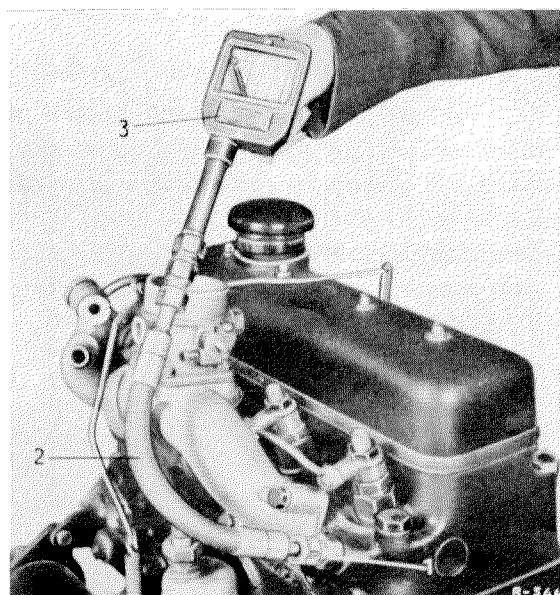

Figure 00-5/1
5. Screw adapter (1) to glow plug hole of the cylinder to be tested. Tighten adapter well to obtain proper sealing. **With Model OM 621**, also connect the angular piece part No. 000 589 00 90 with the union nut to the connection fitting (1), when measuring the 2nd and 3rd cylinder. Then connect the compression pressure recorder (3) with hose (2) to the connection fitting (1) and the angular piece, resp. (Fig. 00-5/1).